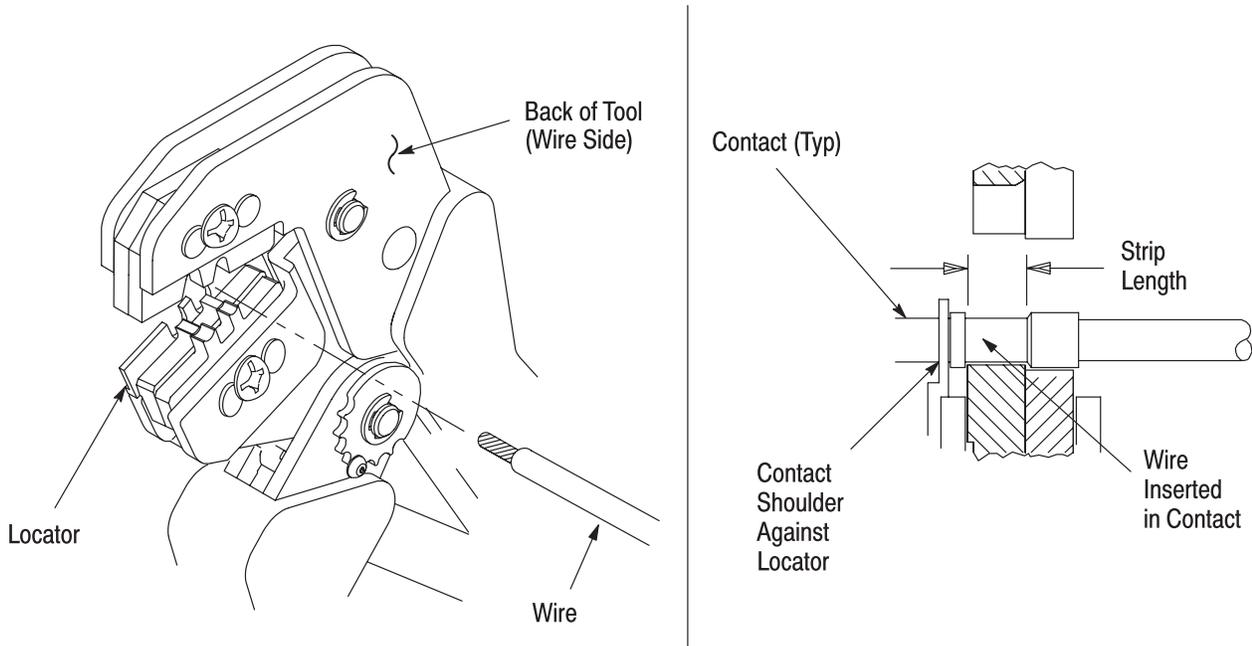

Figure 3
Refer to the table in Figure 1 and select wire of the specified size and insulation diameter. Strip the wire to the length indicated in Figure 1, taking care not to nick or cut wire strands. Select an applicable contact and identify the appropriate crimp section according to the wire size markings on the tool. Refer to Figure 3 and proceed as follows:
3. Position the contact so that the mating end of the contact is on the locator side of the tool. Refer to Figure 3. Butt the contact shoulder against the locator.
5. Fully insert the stripped wire into the contact as shown in Figure 3.